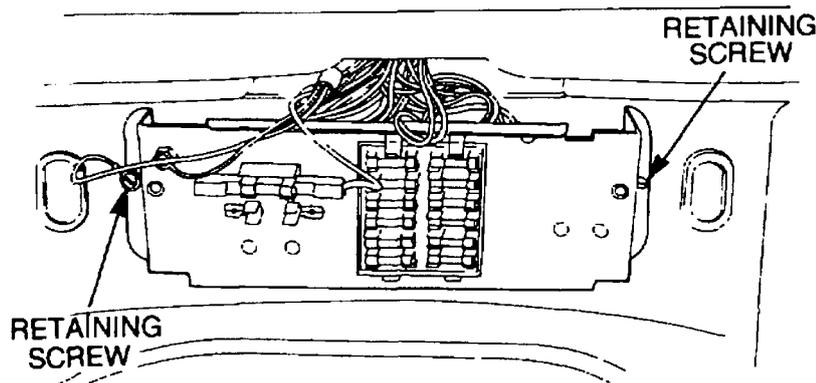

Figure 45 Fuse Box Removal
- Remove the screws securing the fuse box to the firewall (Figure 45). Secure the fuse box out of the way.